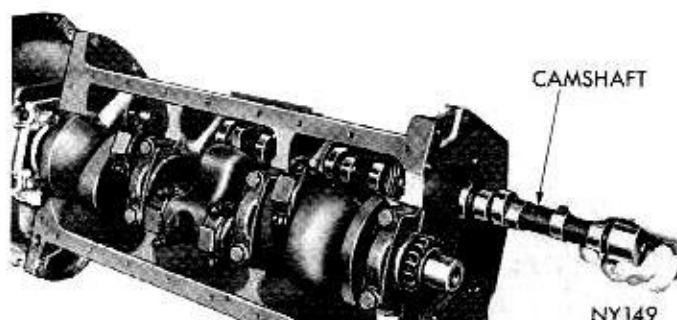

Fig. 28—Installing Camshaft
(1) Lubricate camshaft lobes and camshaft bearing journals and insert the camshaft in cylinder block (Fig. 28).